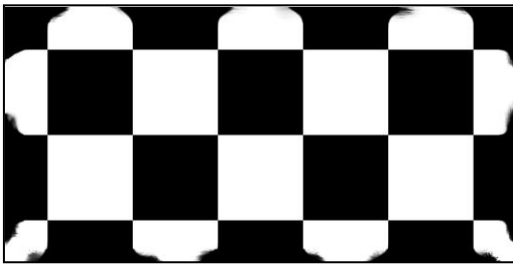

Fig. 2 Sample of the used checkerboard pattern to calibrate the camera
- The checkerboard must have an even number of squares along one side (e.g. X) and an odd number along the other side (Y) or vice versa.
- We noticed that it's recommended to blur or smudge the border corners of the checkerboard that are attached to the edges of the board or otherwise an error might happen in the detection process. However, the provided patterns by us have this smudginess at the corners (Fig. 2).